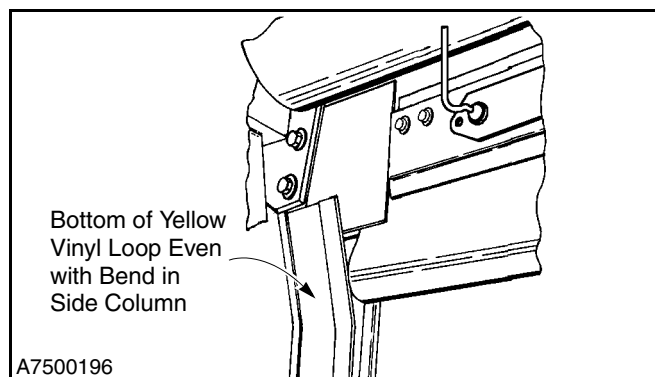

Figure 15
1. With the door in the open position, check the location of the yellow vinyl loop on the bottom bar. It should be in the position shown in Figure 15.